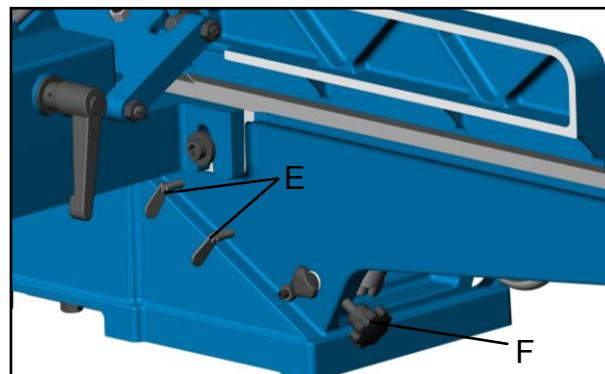

Fig. 5
5. Loosen the outfeed table height adjustment hand wheel lock knob (F) then loosen the table height setting locking levers (E),Fig. 5 .